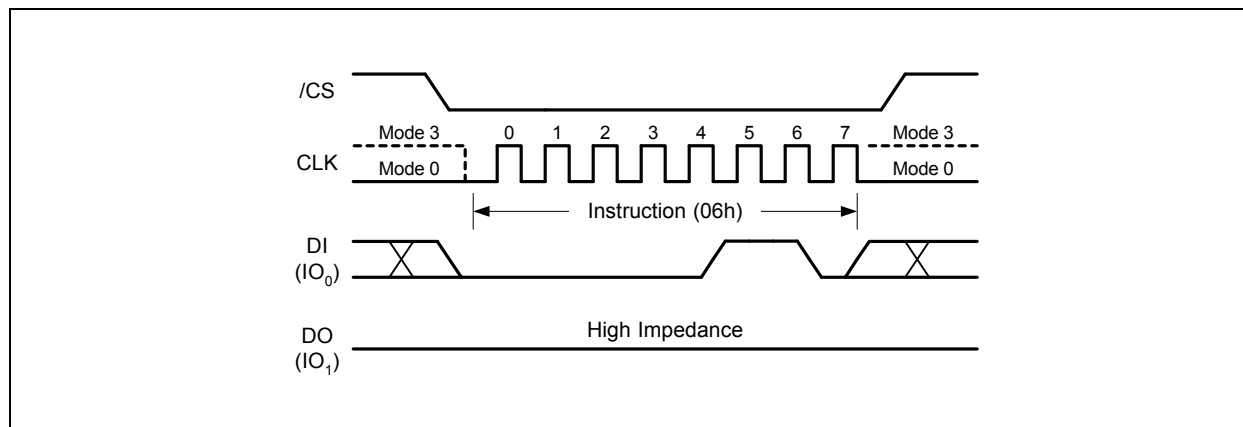

Figure 4. Write Enable Instruction Sequence Diagram
The Write Enable instruction (Figure 4) sets the Write Enable Latch (WEL) bit in the Status Register to a 1. The WEL bit must be set prior to every Page Program, Quad Page Program, Sector Erase, Block Erase, Chip Erase, Write Status Register and Erase/Program Security Registers instruction. The Write Enable instruction is entered by driving /CS low, shifting the instruction code “06h” into the Data Input (DI) pin on the rising edge of CLK, and then driving /CS high.